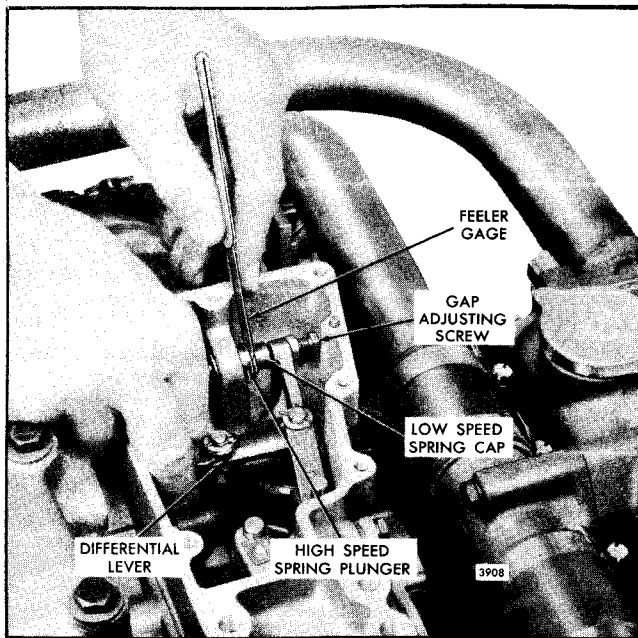

Fig. 12 - Checking Governor Gap
6. Check the gap between the low-speed spring cap and the high-speed spring plunger with a feeler gage (Fig. 12). The gap should be .002"-.004". If the gap setting is incorrect, reset the gap adjusting screw.